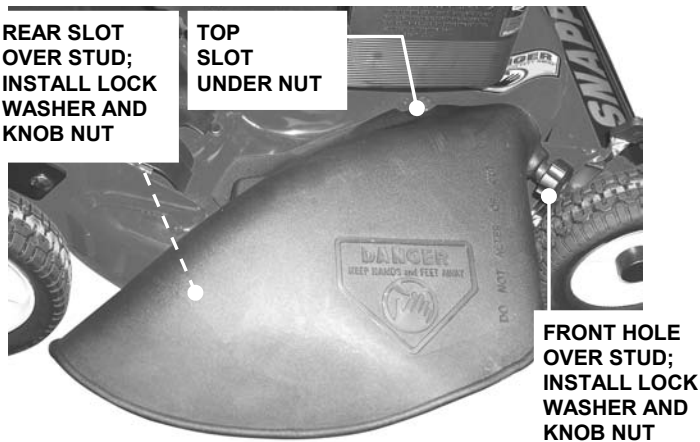

FIGURE 2.13
STEP 2: Install deflector to deck in place of recycling cover, making sure that: 1) front hole on outside front of deflector fits over stud where front of recycling cover was originally secured, 2) slot on top of deflector slips under restraining nut on top of deck (under right front corner of engine), and 3) slot on inside rear of deflector slips onto stud behind rear of discharge opening, where rear of recycling cover was originally secured. Install internal/external tooth lock washers and knob nuts onto studs and tighten securely. See Figure 2.13.